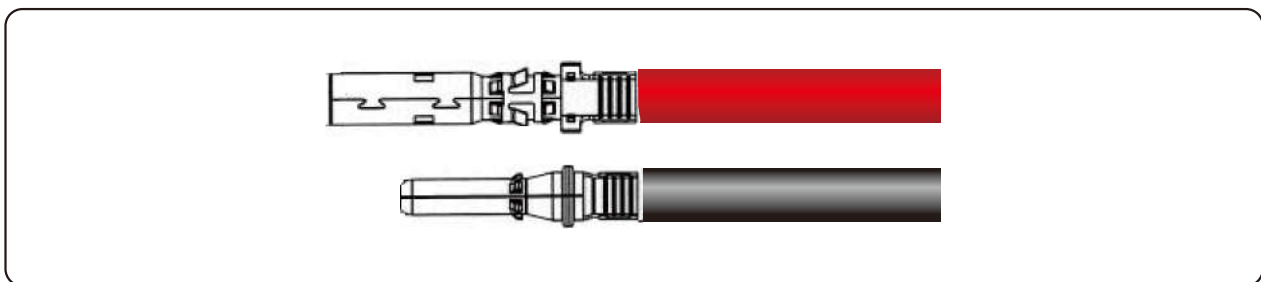

Figure 5.12 Crimping a metal connector
**Step 2** Insert the exposed areas of the positive and negative power cables into the metal terminals of the positive and negative connectors respectively and crimp them using a crimping tool, as shown in Figure 5.12.